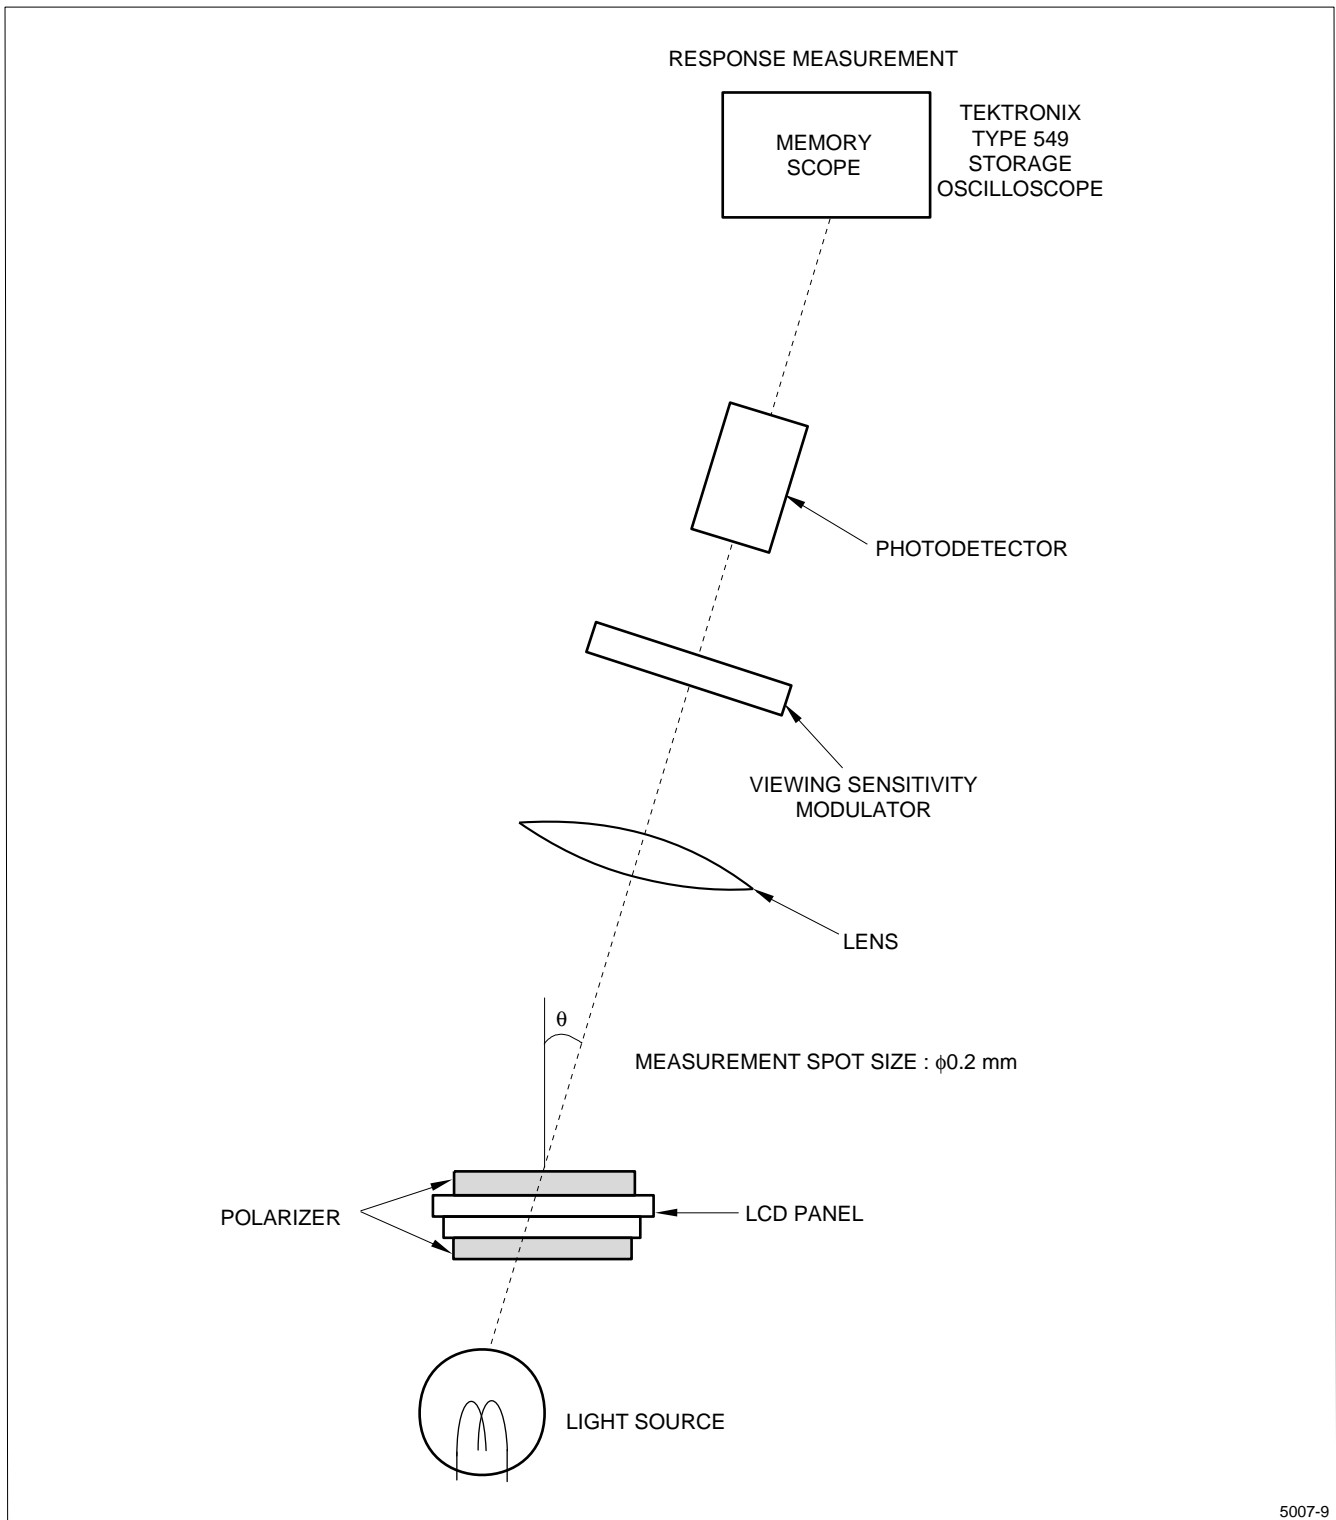
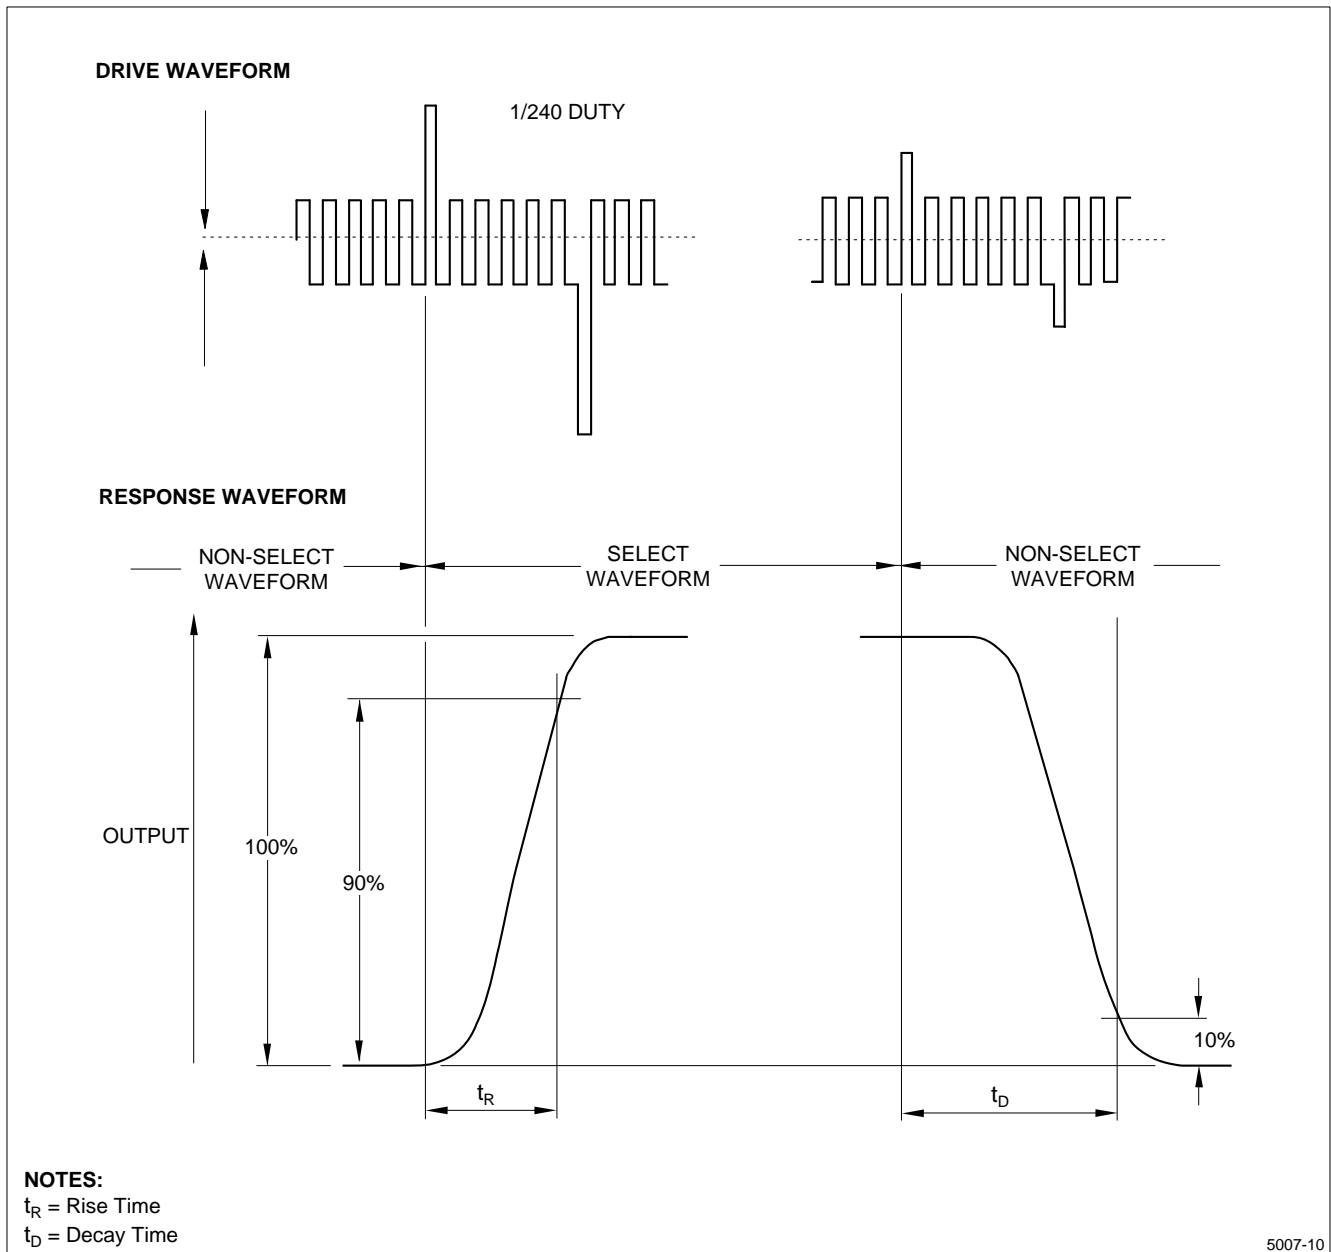

Figure 10. Optical Characteristics Test Method II
Figure 11. Definition of Response Time
- The response characteristics of the photodetector output are measured as shown in Figure 10, assuming that input signals are applied to select and deselect the dots to be measured, in the optical characteristics test method shown in Figure 11.